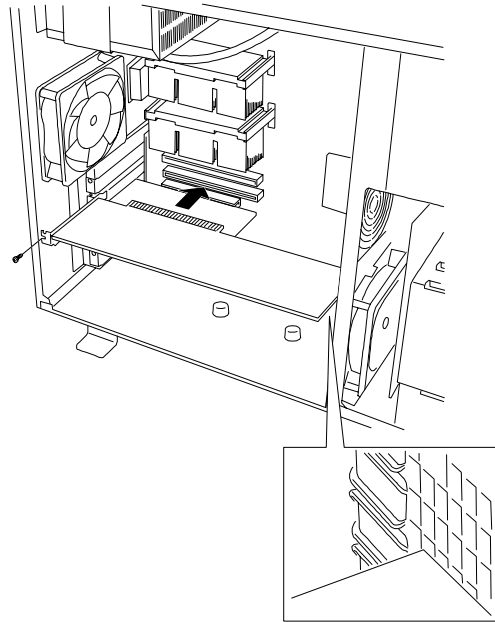

Figure 4-12. Installing an Option Board
8. Holding the board by its top edge or upper corners, firmly press the board into an expansion slot on the system board. The tapered foot of the option board retaining bracket must fit into the mating slot in the expansion slot. See Figure 4-12.